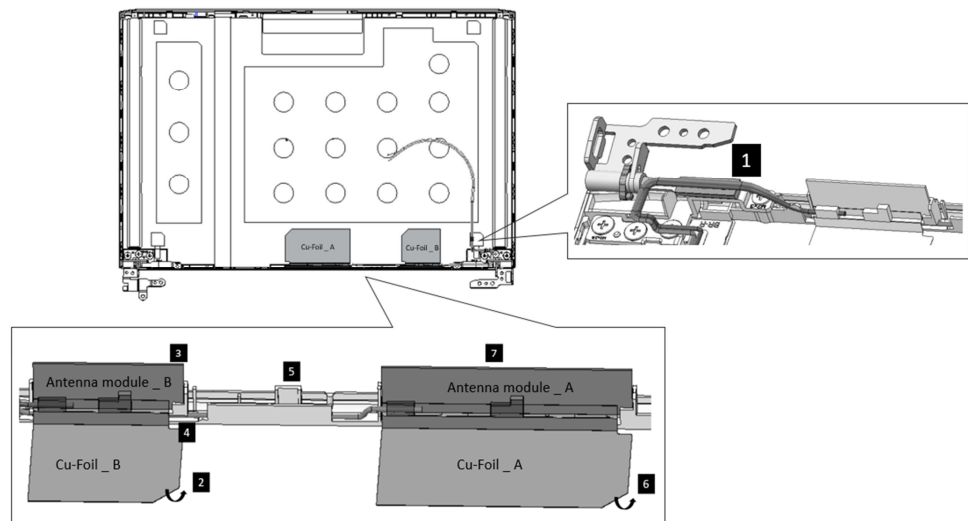

Figure 4-27 Removing the Antenna module
Remove the Antenna module according to the following procedures and Figure 4-27.
4. Seat and adhere the Antenna module in the correct position on the LCD cover assembly as shown in Figure 4-27.